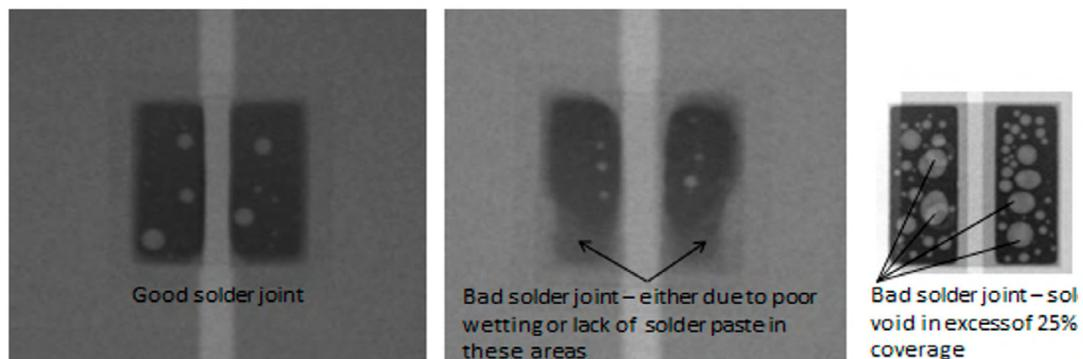

Figure 20. Example of good and bad x-ray result of a representative LED package.
1. Solder voids – perform x-ray inspection. Keep solder void to less than 25% coverage (Figure 20)